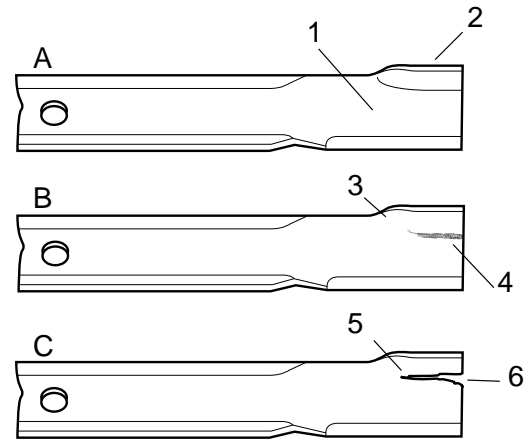

Figure 13
2. Examine the cutting ends of the blade carefully, especially where the flat and curved parts of the blade meet (Fig. 13 A). Since sand and abrasive material can wear away the metal that connects the flat and curved parts of the blade, check the blade before using the mower. If wear is noticed (Fig. 13 B), replace the blade.
If the blade is allowed to wear, a slot will form between the sail and the flat part of the blade (Fig. 13 C). Eventually a piece of the blade may break off and be thrown from under the housing, possibly resulting in serious injury to yourself or to bystanders.